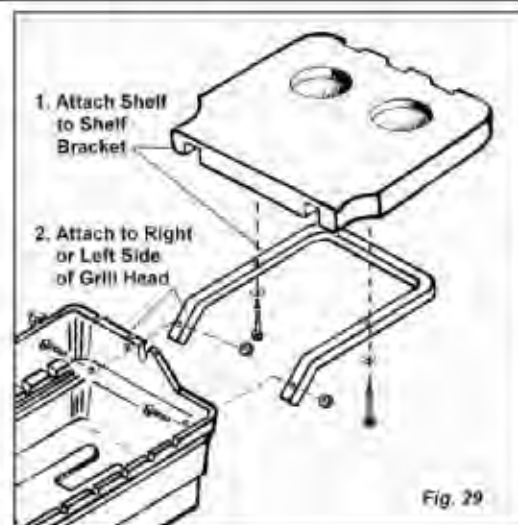

Fig. 29
Step 3: Attaching the Side Shelf (Fig. 29)
1. Turn NuStone Shelf upside down, noting the hole location of the (2) Brass Treated Inserts.